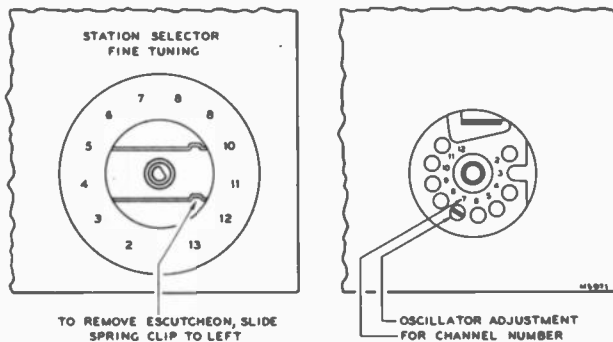

Figure 4—R-F Oscillator Adjustments
**CHECK OF R-F OSCILLATOR ADJUSTMENTS.**— Tune in all available stations to see if the receiver r-f oscillator is adjusted to the proper frequency on all channels. If adjustments are required, these should be made by the method outlined in the alignment procedure on page 10. The adjustments for channels 2 through 12 are available from the front of the cabinet by removing the station selector escutcheon as shown in Figure 4. Adjustment of channel 13 is on top of the chassis.